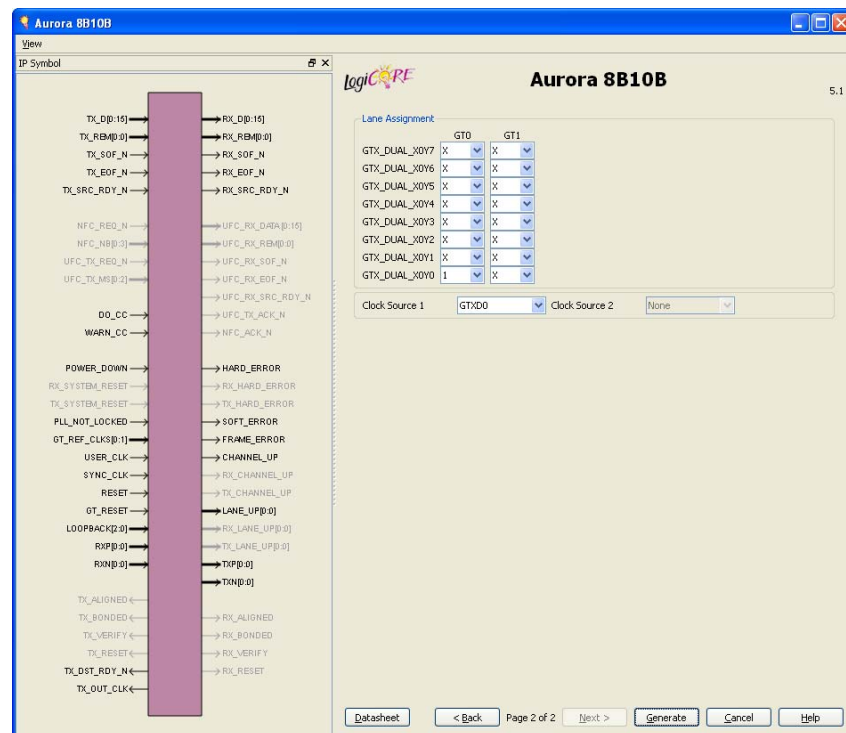

Figure 2-3: Second GUI Page for Virtex-5 FPGA RocketIO GTX Transceivers
- Figure 2-3, page 23 for Virtex-5 FPGA RocketIO GTX transceivers